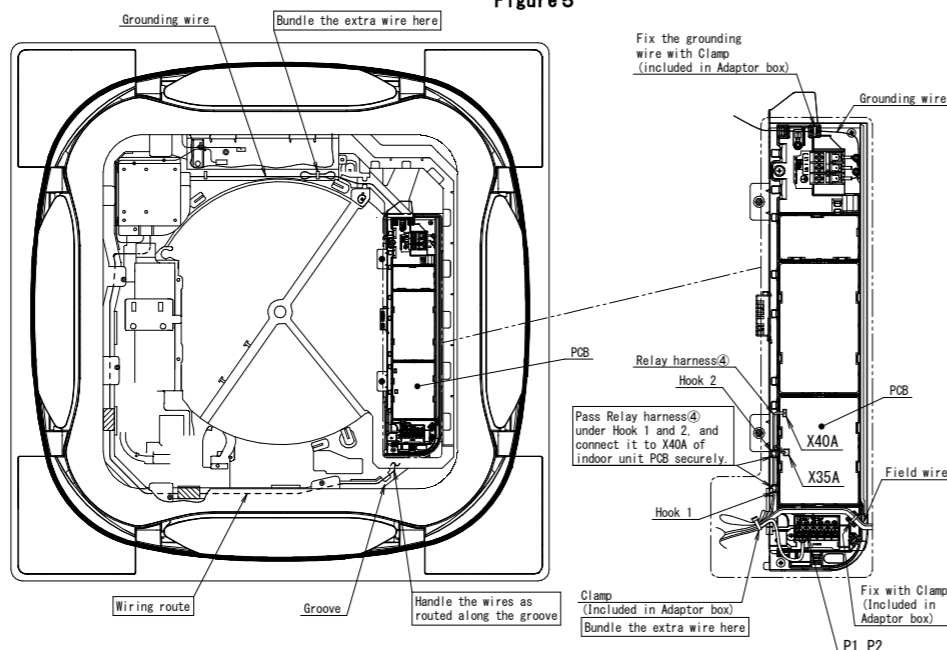

Figure 6
●Refer to Figure 6 for connection of Relay harness④ and the indoor unit.